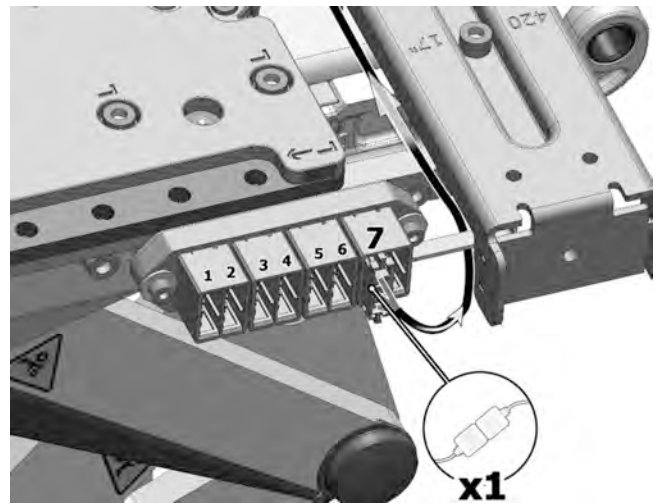

Figure 140. The ICS bus cable is connected to the seventh position of the connector block.
- The ICS bus cable is connected to the seventh position of the connector block on the right hand side of the seat. See fig. 140.